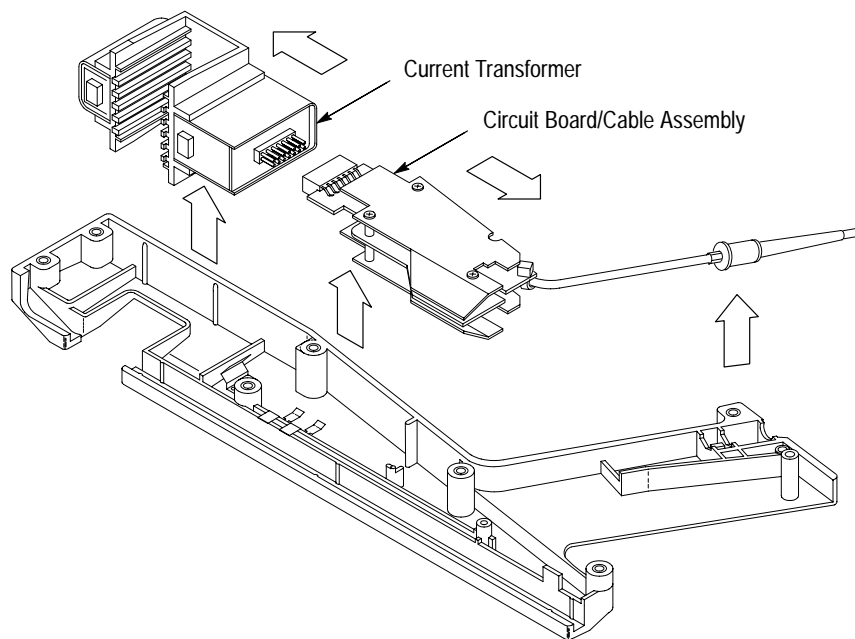

Figure 8: Removing the Current Transformer
8. To remove the current transformer, lift the assembly out of the probe as shown in Figure 8 and unplug it from the circuit board.